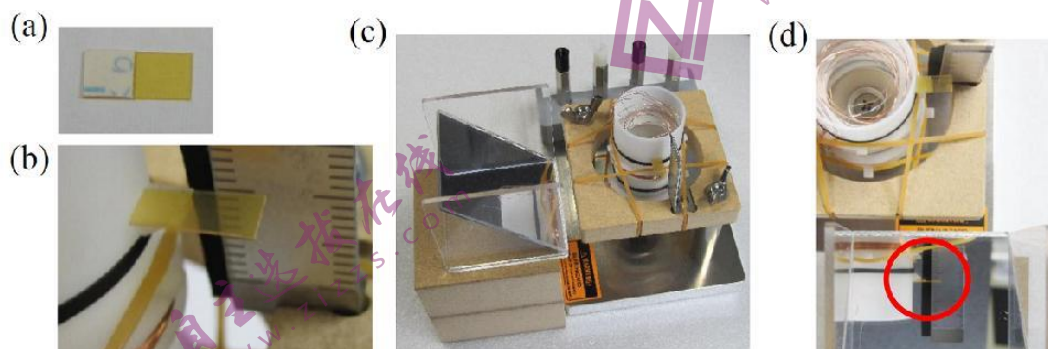

Figure 4: Installation of the marker and mirror.
7. Expose the sticky surface of the double-sided adhesive tape on the marker (Fig. 4(a)). Glue the marker to the tiny little floating shelf on the oscillator to measure the height (Fig. 4(b)).
8. Set the mirror on the riser block (Fig. 4(c)). Secure a clear vision of the marker from above through the mirror (Fig. 4(d) red circle).